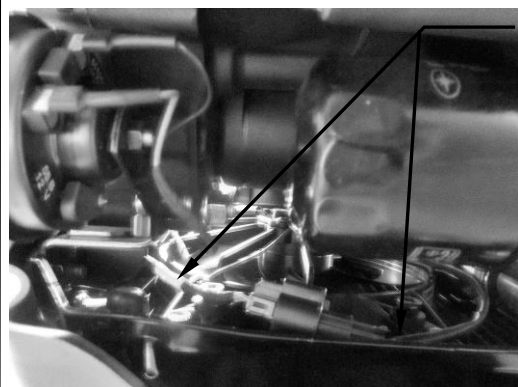

FIGURE 11
10. Follow left front cast frame member down to radiator fan. Below radiator fan, locate stock front oxygen sensor connectors. Cut two zipties securing connector / harness to bottom of radiator. Carefully pull stock connectors to bottom of bike near oil filter. See Figure 11. Pull Fi front O₂ connectors previously routed to this area in step 5, behind radiator fan and under radiator. Mate corresponding Fi front O₂ connectors with stock front O₂ connectors. Figure 12. Carefully tuck connectors back up behind radiator and secure with two large 6" zip ties.